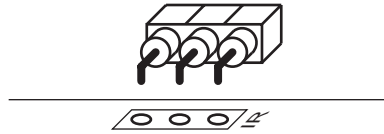

Figure 3.6: IR detector mounting detail. Use pliers to bend the pins at a right angle.
- IR detector socket at “IR.” Use pliers to bend the pins on a 3-socket header. Install it on the edge of the board as shown in Figure 3.6.